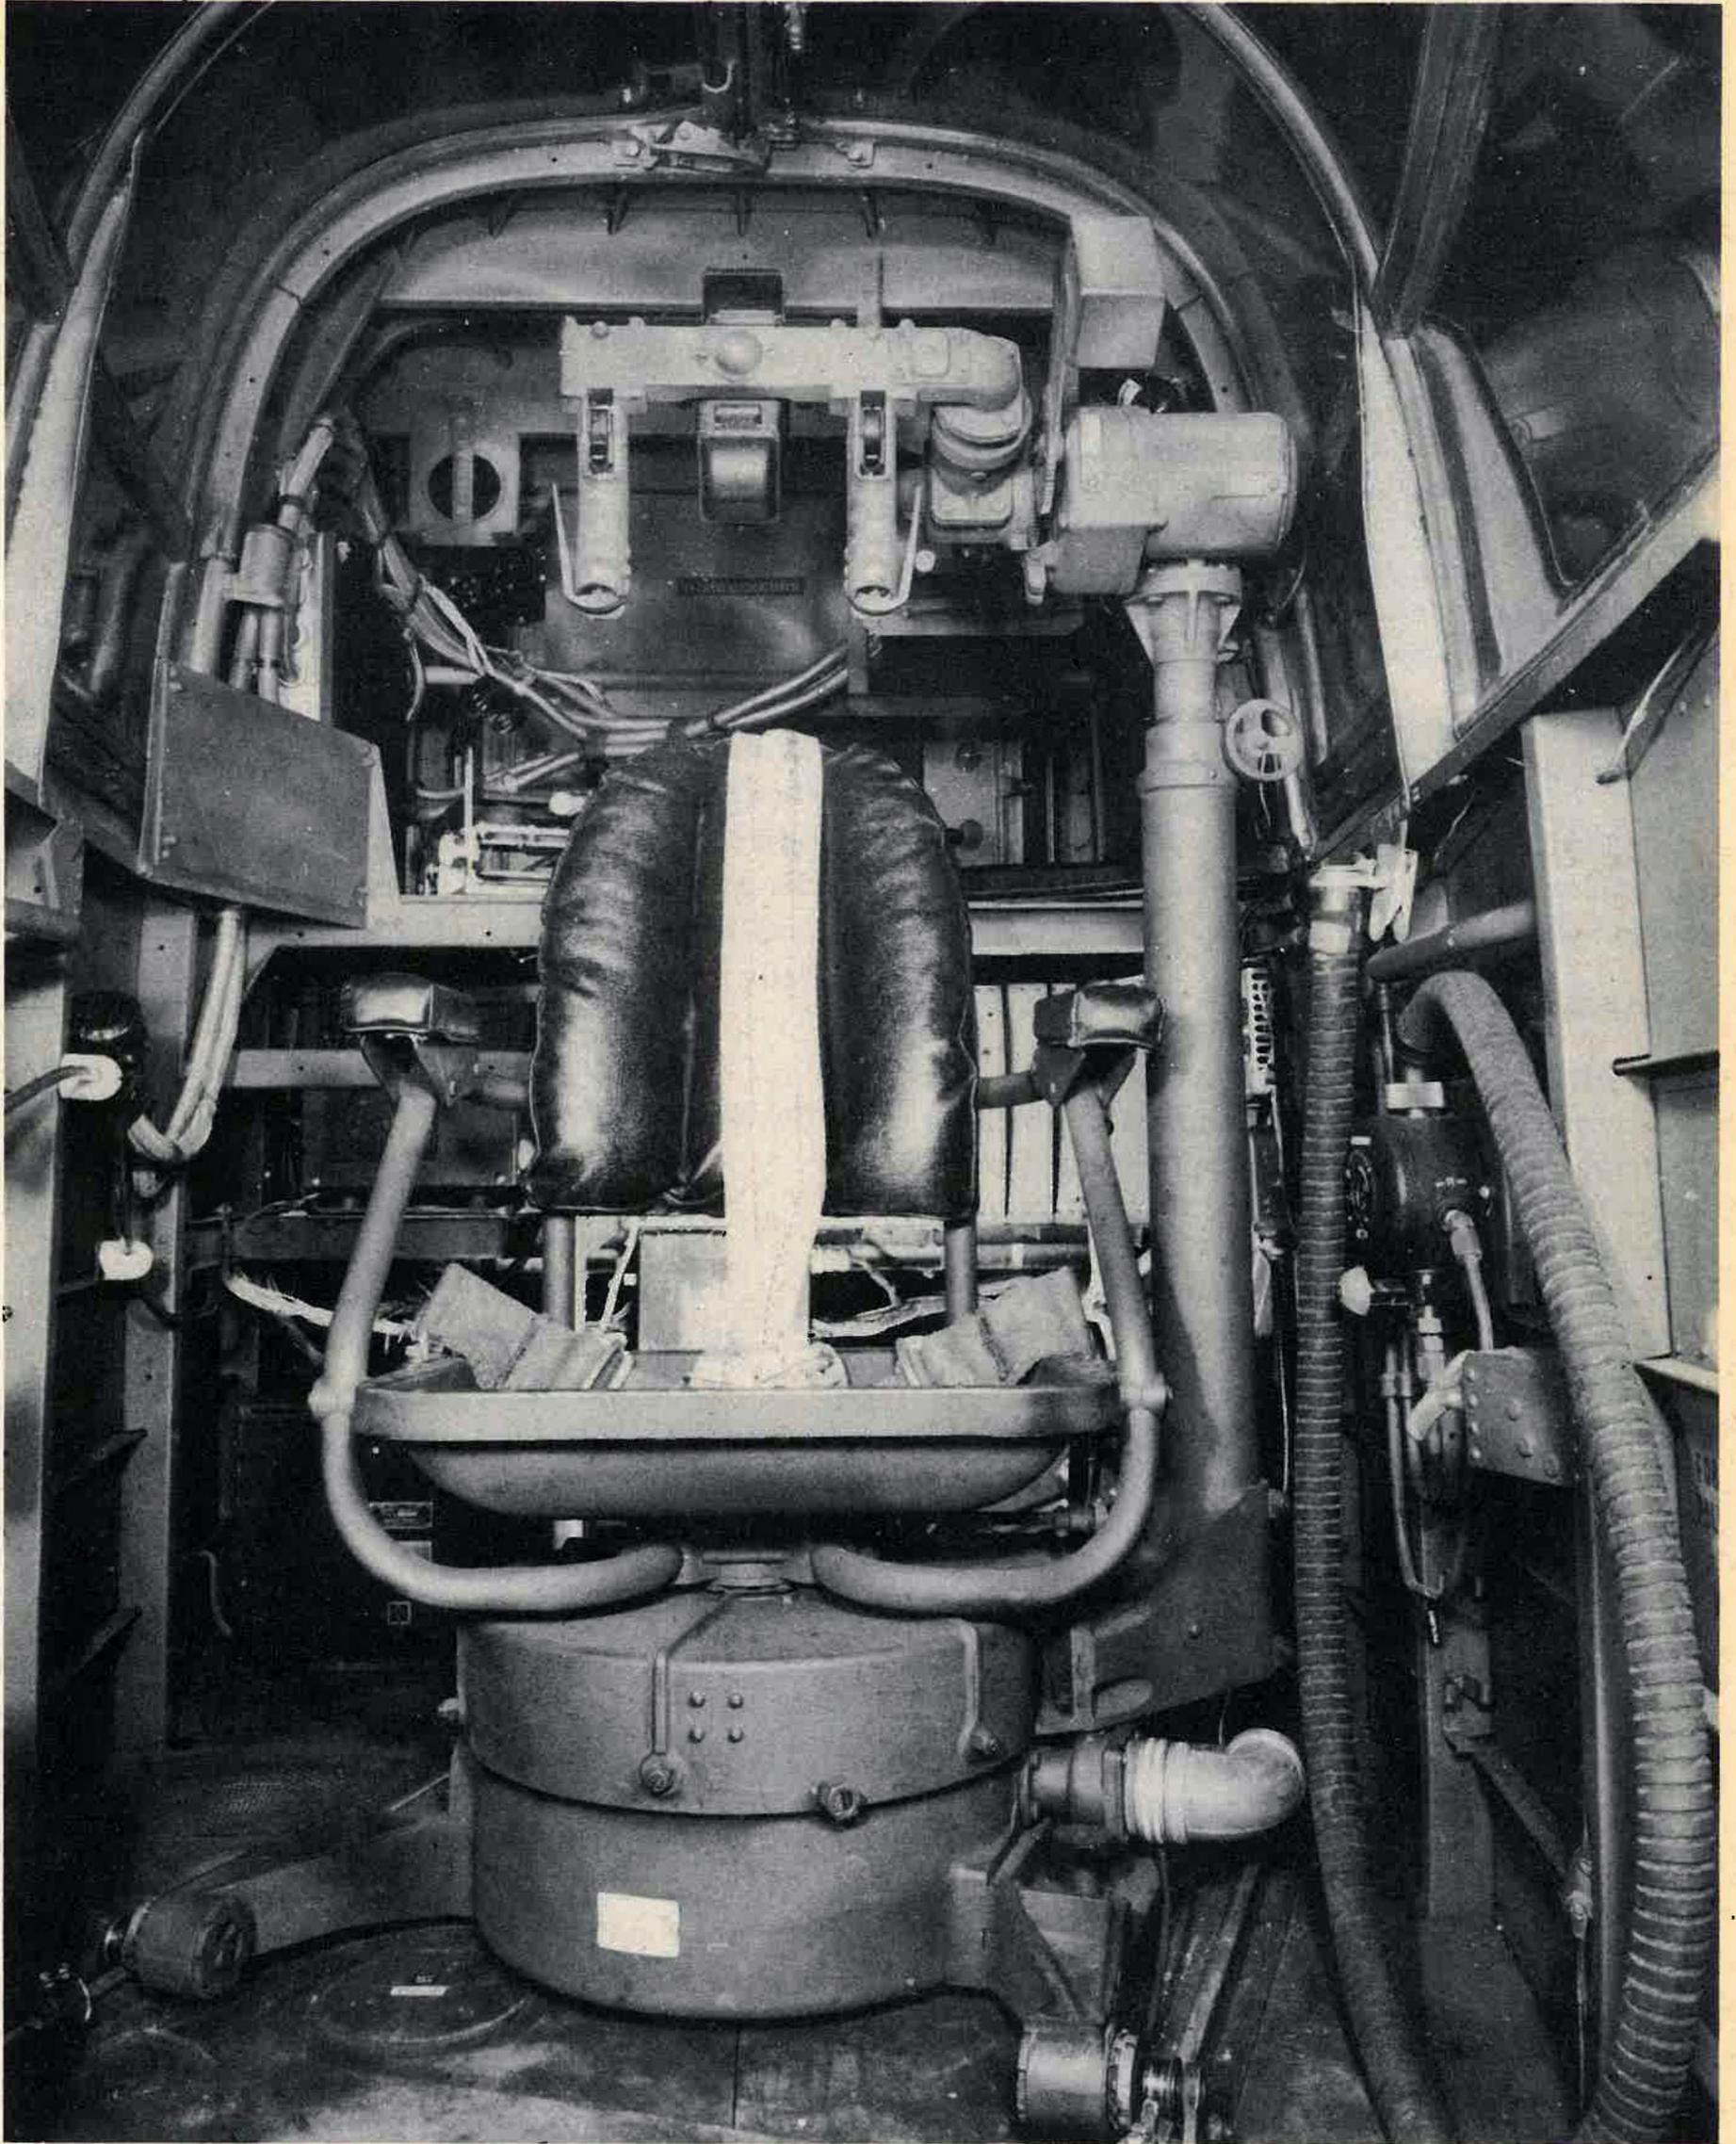

Figure 27 — Radio Operator's Controls
2. RADIO OPERATOR'S COMPARTMENT. (Fig. 27)
c. RADIO OPERATOR'S OPERATIONAL EQUIPMENT.—(Fig. 27.)
(1) The radio operator's heater is located beneath the floor of his compartment. It is controlled by a switch on the radio junction box.
(2) Radio operator's suit heat rheostat is located beneath the table at the right of the cockpit.
(3) Radio operator's armament, oxygen, and communications equipment are discussed in paragraphs 3, 4, and 5 of this Section.